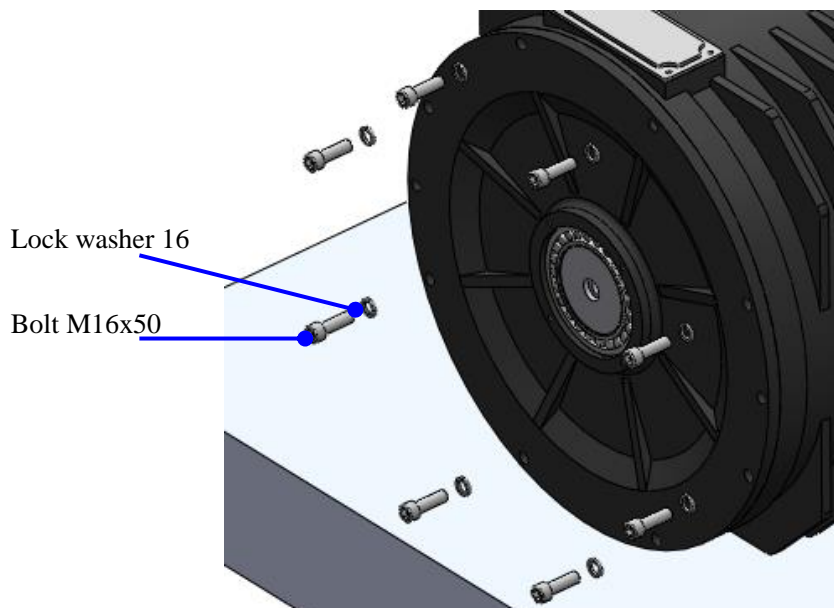

Figure 114: Remove M16x50 bolts
6. Remove the bolt M16x50 (8 pieces) and lock washer16 (8 pieces) with the hex wrench, screw a pair of double end studs (M16x300) into the threaded holes opposite each other. See Figure 114.